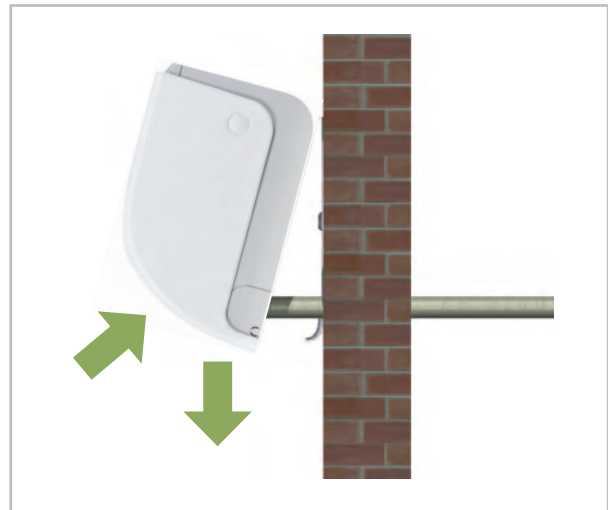

Fig. 27: Horizontal positioning
5. ➤ Check again that the unit is level. (Fig. 27)